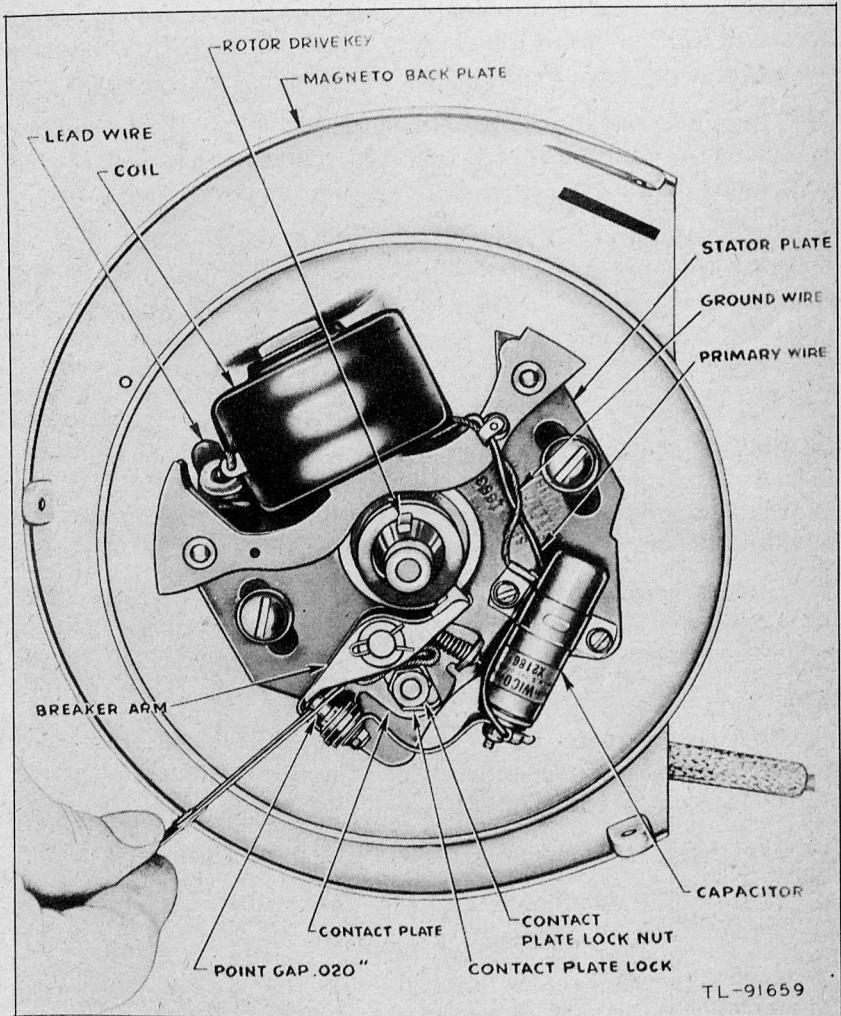
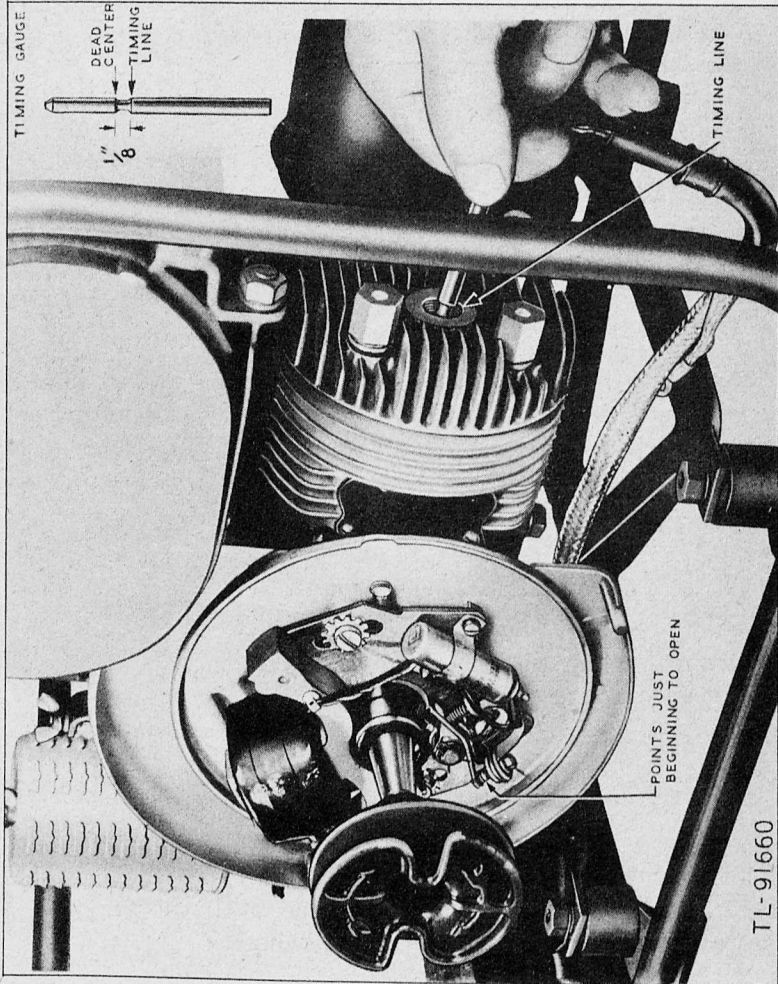

Fig. 10—Magneto Point Adjustment
Fig. 11—Magneto Timing
(g) Check opening (fig. 10) with feeler gauge (457). Correct opening is .020 inch.
(4) If the points need resetting, bend down the contact plate lock (fig. 10), loosen the lock nut (475) which holds the breaker plate (476) in position and move the plate up or down as necessary to obtain the proper point opening. After setting is accomplished, be sure to tighten the lock nut (475) and bend the ear of the plate lock against the flat of the lock nut so it cannot loosen up.
(5) The breaker plate setting should be made only in the manner prescribed. At no time should the fixed contact on the plate (476) be loosened or the breaker arm (465) bent to provide adjustment.
(6) The moving contact is integral with the breaker arm. In replacing the breaker arm (465), make certain the breaker arm bushing is in place. If either one of the contact points needs replacing, change both of them at the same time to insure satisfactory operation.
(7) The breaker arm bearing is packed with a cam lubricant at the time of assembly and should not require additional lubrication. A small amount of this lubricant is also packed on the breaker arm cam wiper (481) and wipes off on the cam surface, providing permanent lubrication between these rubbing surfaces.
(8) Uneven or pitted points may be restored to a true even condition by using the point cleaner furnished with the equipment. Be sure to remove all dust particles after servicing the points. If points are in need of extensive dressing, replace them.
c. To time magneto. If, for any reason, the magneto assembly is removed from the engine, follow these directions for proper timing (see fig. 11):
- (1) Check the point opening as outlined in subparagraph b (3).
- (2) Remove the cylinder head baffle (414), then the spark plug shield (400) and the spark plug.
- (3) Turn the crankshaft (428) in direction of engine rotation (to the right) until the piston reaches top dead center.
- (4) Insert the small narrow rod furnished with equipment through the spark plug hole in the cylinder head (415) until it touches top of piston.
- (5) The lower edge of recess on the rod should then be flush with the top of spark plug hole.
- (6) Then withdraw the rod.